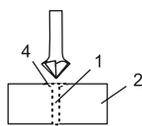

Figure 6
4. Enlarge the hole (1) in the outer piece (2) so that it is the same size as the smooth portion of the screw shank (Fig. 6).
5. If using a flat head screw, counter-sink the hole (4) so the head of the screw will be flush with the surface when fully driven into place.